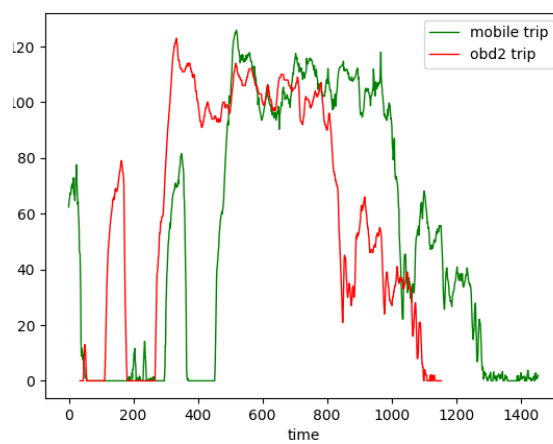

Figure 6: OBDII data is left shifted, so it needs to move a little bit right
Step 2 - Slicing Mobile: The same process above is repeated, except this time the order is swapped. The algorithm now compares each OBDII trip against all Mobile trips to find the best match, and this time the Mobile data is sliced instead of OBDII. **The reason** to do this step is to handle cases where shifting the sliced OBDII trip to left does not find any match. Consider figure 6. If we keep shifting the OBDII plot to the left, we will never find the match with Mobile plot. For this, we need to shift the mobile plot to left. So here Slicing OBDII will not work, but Slicing Mobile will do the job.